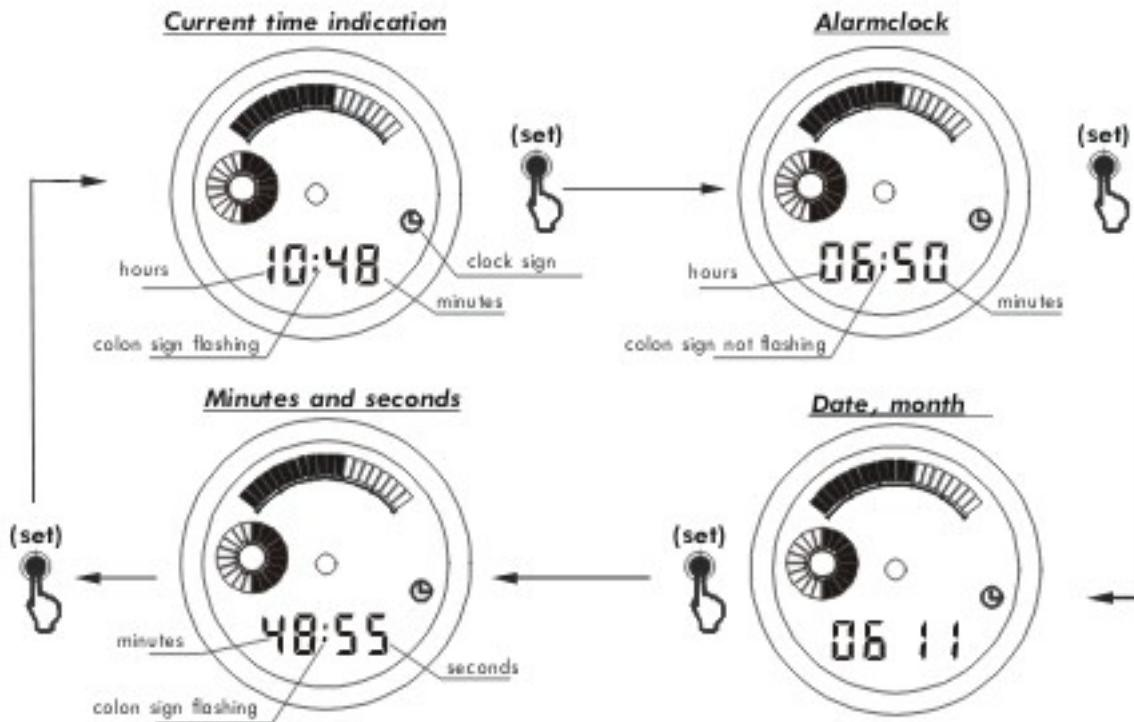

Fig. 2.3
Enter the Current time mode as described in paragraph 2.4.1. Press and release the “set” button (2) to see on the following information on the LCD in rotation (Fig. 2.3):